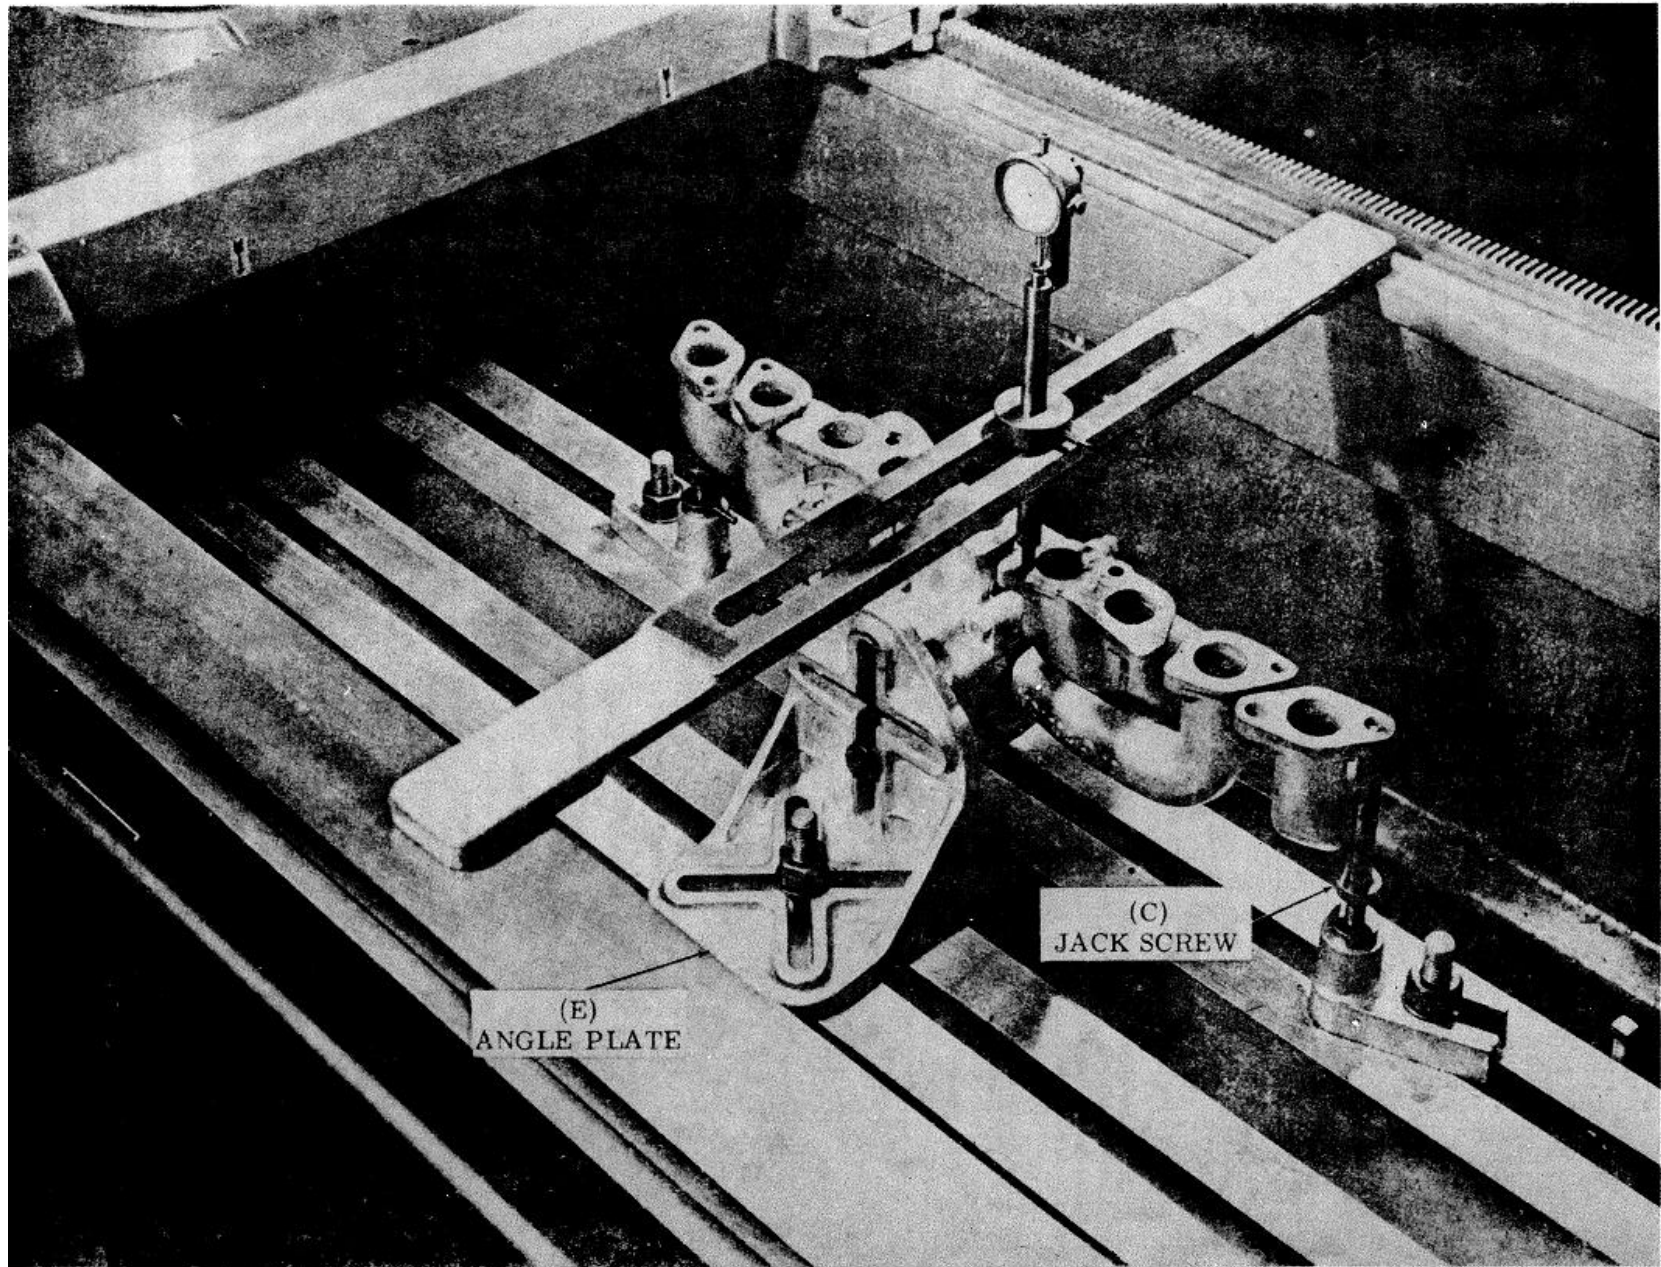

Figure 6
3. Level side ways by adjusting jack screws. (Rough set with level and follow with indicator as shown in Figure 6.)